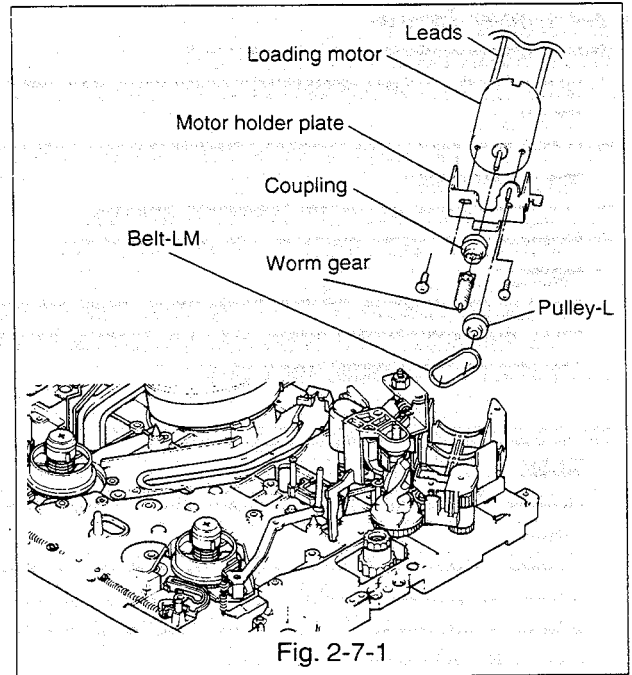

Fig. 2-7-1
### 2-7-1 Removal(Refer to Fig. 2-7-1, 2-7-2.)
- Remove the belt-LM from the loading motor and the pulley-L.(TYPE-B only)(Refer to Fig. 2-7-1.)
### 2-7-2 Installation(Refer to Fig. 2-7-1~2-7-3.)
- Fasten the motor holder plate to the motor with two screws.(Refer to Fig. 2-7-1.)